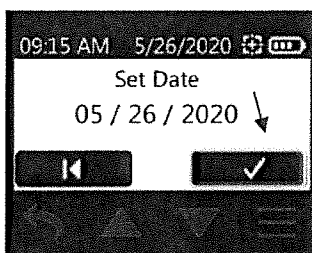

Figure 56. Accept Button
- Touch check mark to accept new date and return to Clock Menu. The updated date will be displayed (Figure 56).